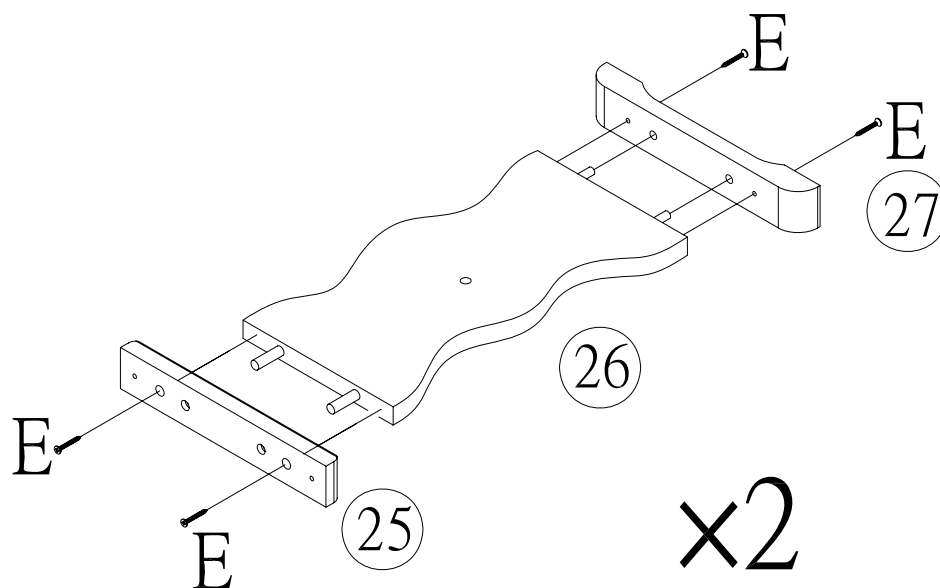

FIGURE 2
- 1) ATTACH SEAT BASE #27 TO LEG #26 THROUGH FITTING DOWELS LOCATED AT LOWER END OF LEG #26 INTO HOLES LOCATED ON UPPER EDGE OF BASE #27 USING PRE-DRILLED HOLES AS GUIDE, SECURE CONNECTION WITH (02) SCREWS(E). DRIVEN WITH ALLEN WRENCH(J) AS SHOWN IN FIGURE 2. REPEAT PROCEDURE FOR SECOND LEG #26.
- 2) ATTACH TABLE TOP SUPPORT #25 TO LEG #26 FITTING THE DOWELS LOCATED ON UPPER END OF LEG #26 INTO HOLES LOCATED ON SUPPORT #25. USING PRE-DRILLED HOLES AS GUIDE, SECURE CONNECTION WITH (02) SCREWS(E) DRIVEN WITH ALLEN WRENCH(J) AS SHOWN IN FIGURE 2. REPEAT PROCEDURE FOR SECOND TOP SUPPORT #25.